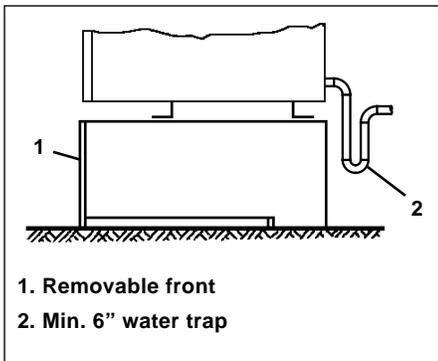
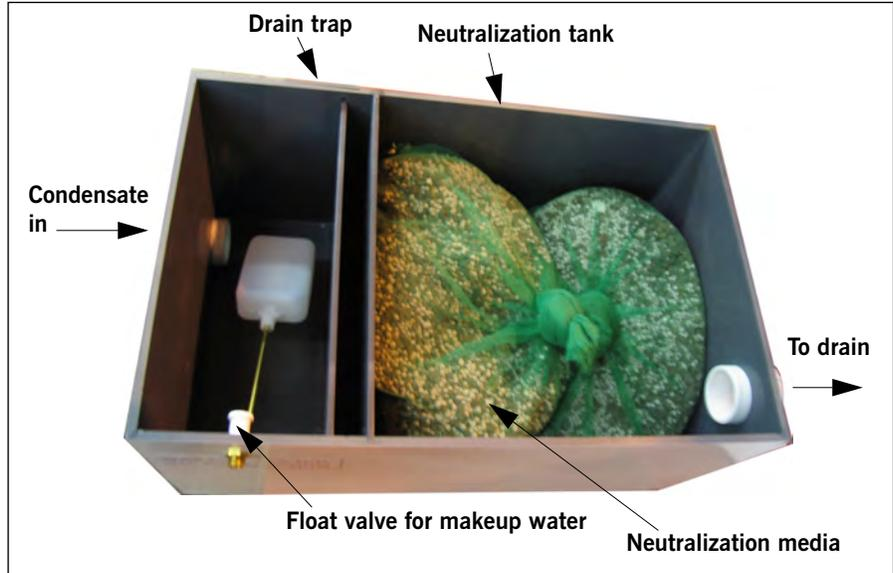

Figure 2-34 Condensate Piped Direct to Drain
Figure 2-35 Condensate Treatment Tank
Condensate leaving the boiler normally has a pH of 4-6. The responsible authority will inform you if a higher pH value is required for condensate piped to drain. The CFC neutralization system contains the granulate NEUTRALAT, a natural compound which acts to increase the pH of the condensate flowing through it. The neutralization system comprises the plastic neutralization tank with condensate inlet, makeup valve, drain trap, granulate chamber and condensate outlet (see **Figure 2-35**). The system is installed in the CFC lower collection area.
(1) Condensate direct to drain - The condensate is piped directly to a drain through the piping and water trap supplied during installation (see **Figure 2-34**).
(2) Condensate to treatment tank - The condensate is held in a condensate tank under the boiler. The condensate is neutralized as it passes through the granular bed. The neutralized condensate is then piped to the drain.
- To install the system, assemble the tank and neutralization granulate per **Figure 2-35**. 2 bags of neutralization media are sufficient to fill the tank.